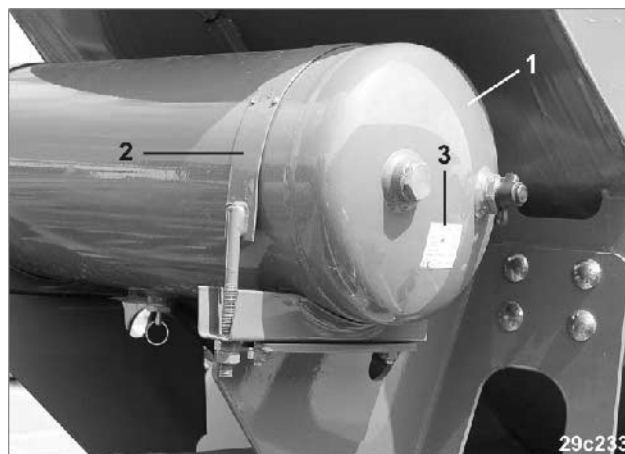

Fig. 45
The air reservoir (Fig. 45/1) must not
- move within the tensioning belts (Fig. 45/2)
The type plate (Fig. 45/3) must not